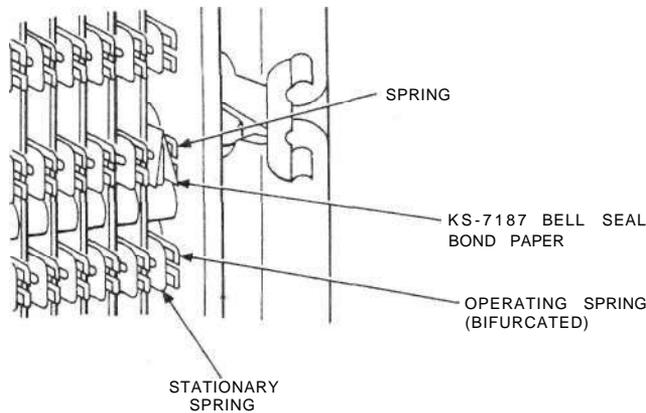

Fig. 42—Insulating Contacts of 245- and Similar-Type Relays
(1) *Flat-Spring Type:* Cut the strip of KS-7187 paper to the required size. Fold the paper and insert it between the contacts as shown for typical relays in Fig. 42.